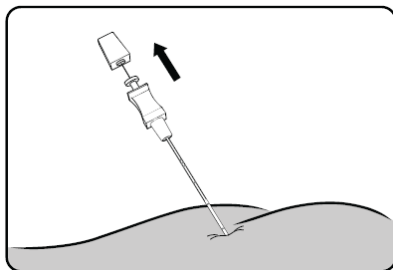

Figure 7. Remove the stylet from the foramen needle
2. Remove the stylet from the foramen needle (**Figure 7**).